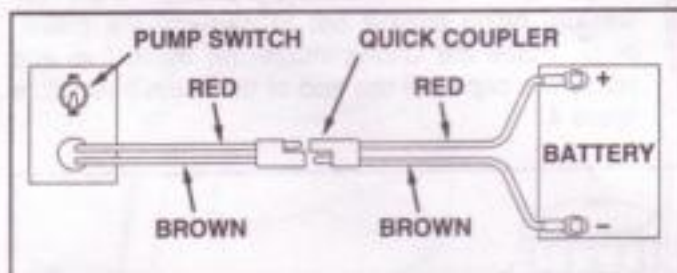

FIGURE 9
17. To connect the wire harness to the tractor, attach the red wire to the positive post on the battery or to the "HOT" connection on a tractor switch or ammeter. The brown wire may be grounded or connected to the negative battery post. See figures 9 and 10.